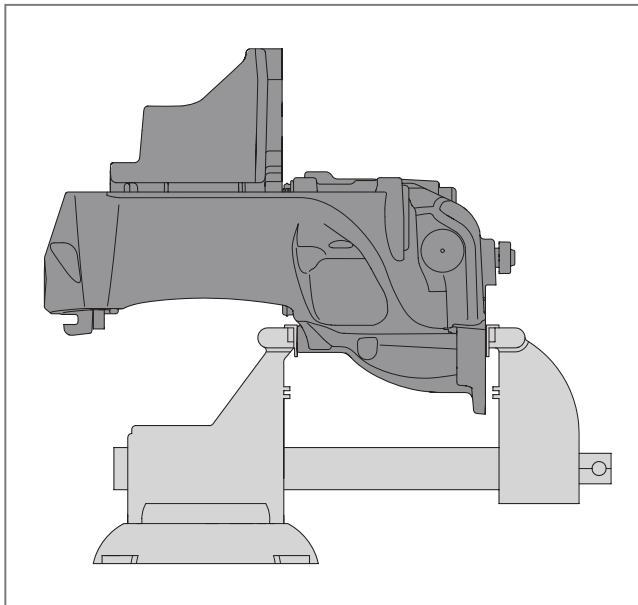

Fig. 55 - Clamping device for inserting the slide function assembly
1. Fasten the brake calliper securely in a vice with soft jaws, see ► Fig. 55. Ensure that the jaws of the vice do not damage the brake calliper.
8. To remove both bearings (F) and the spacer (G) on the leading side, assemble in sequence SAF special tools P/N 4 434 3884 00, P/N 4 434 3837, P/N 4 434 3848 0, P/N 4 434 3841 0; P/N 4 434 3890 0 and P/N 4 434 3889, as shown in □Fig. 55.
9. Once fitted correctly, rotate the threaded tool clockwise, which will pull out the two bearings (F) and the spacer (G). If necessary, rotate the mandrel P/N 4 434 3889 00 half way through the extraction process so that the nut P/N 4 434 3841 00 can be held.